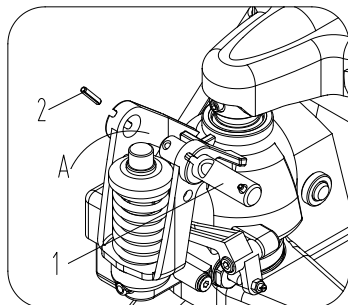

Fig.1
3.1 See fig 1, pull out the pin roll 1.